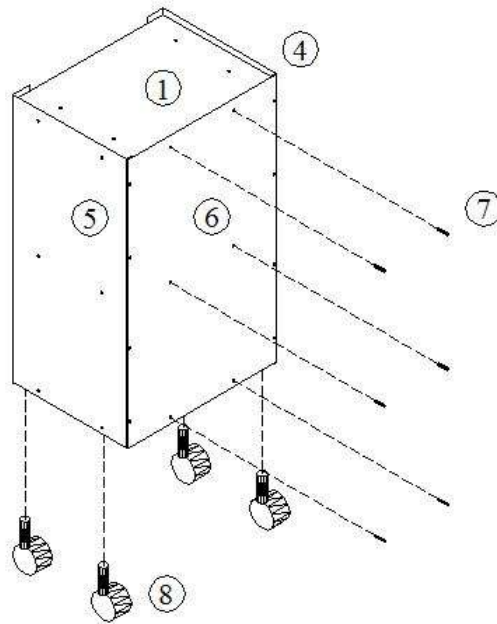

Figure 6
Adjust the wheels of pedestal (8) by turning them clockwise to reduce their height and counter clockwise to increase the height. These adjustable feet will compensate for any irregularities in the surface you are putting it on. As shown in Figure 6.